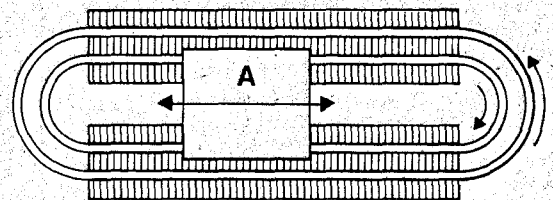

Fig. 8: Plan view of a concentric coil levitator with coils elongated to float rectangular sheets with neutral equilibrium in one horizontal axis.
Figure 8 shows a plane view of such a levitator in which the aluminium plate A is capable of unrestrained motion in the axis indicated by the arrows. It was further discovered that, unlike the circular plate devices in which the two primary coils required different numbers of ampere-turns (AT) from each other and a phase lag of approximately 30° on the inner coil current, the two coils of the system shown at Fig. 8 could each have the same AT and be connected in series with opposite sense as shown. It was then realised that for a very long primary system the ends of the coils were not detectable by the secondary
the system it was completely unstable laterally. Then Dr Eastham remembered an earlier occasion when someone accidentally connected the machine shown at Fig. 8 with one coil reversed — which seemed to have a little effect on the lift and stability. He therefore reconnected the system of Fig. 13(c) with one coil in reverse (as in (a)) and at once obtained stability. At this point a manufacturer (Linear Motors Ltd) was consulted and this firm pointed out the difficulties of manufacturing 9 m of such primary as a continuous piece and shipping it to Washington.